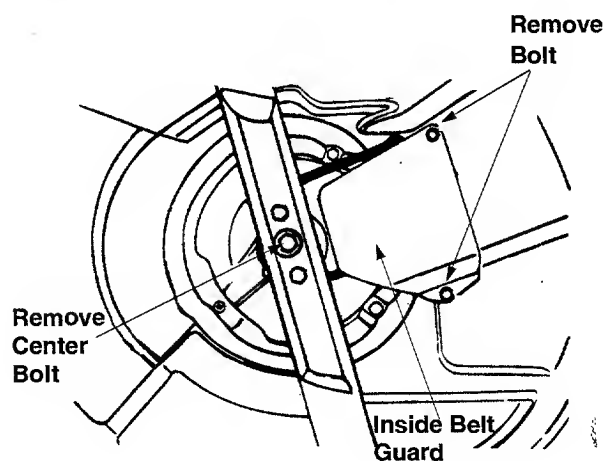

Figure 19
6. Remove the inside belt guard by removing two self-tapping screws. A 3/8" wrench is required. See Figure 19.